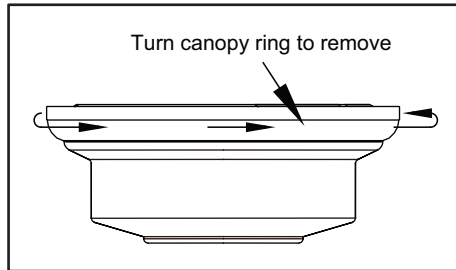

Figure 5
1. Remove the canopy ring from the canopy by turning the ring until it unlocks. (Figure 5)